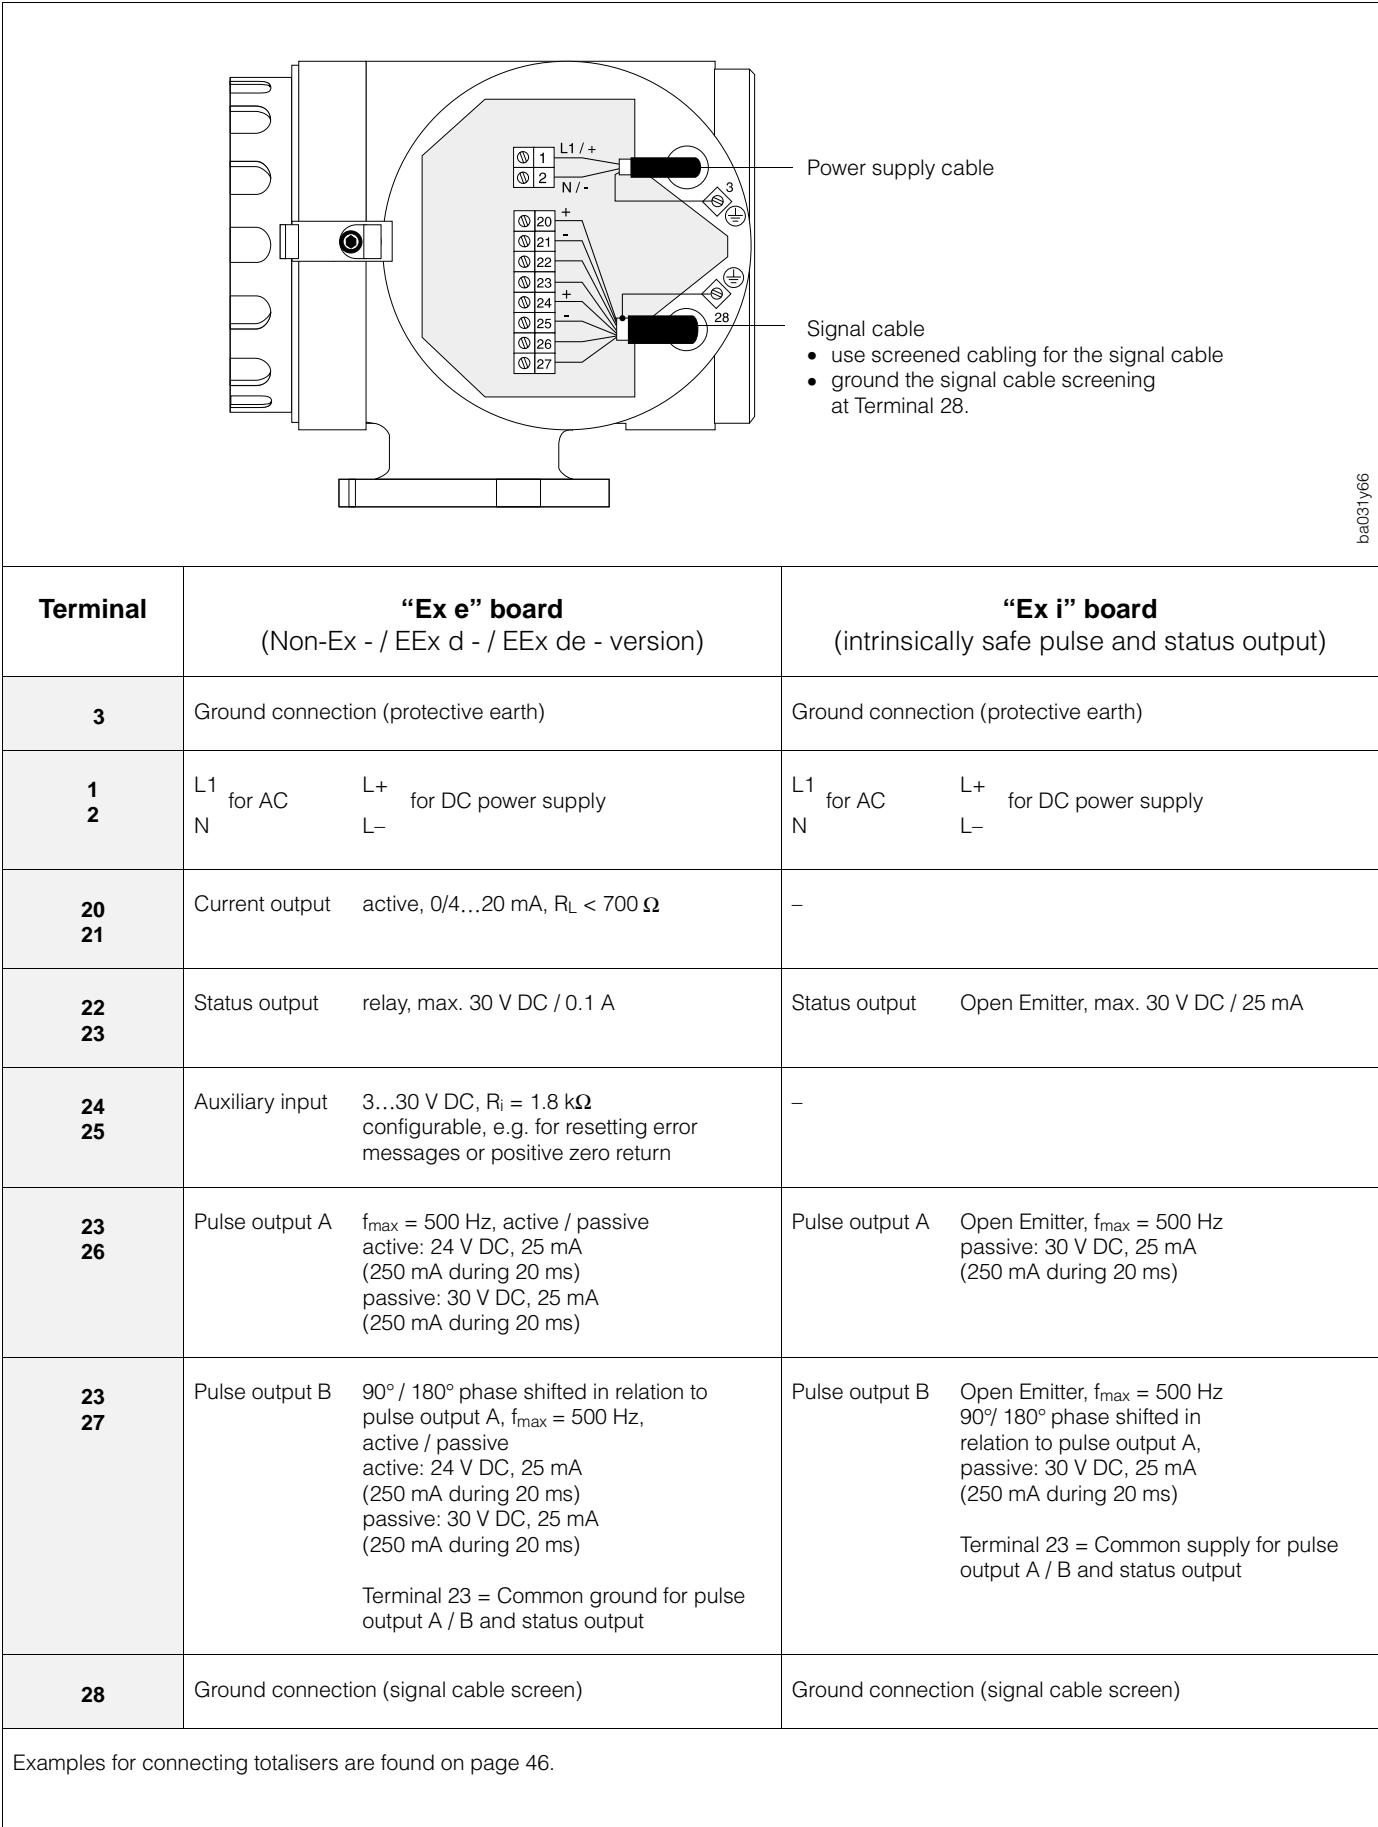

Fig. 13:
- 4 Wire up according to the connection diagrams (see diagram in the screw cover or Fig. 13):